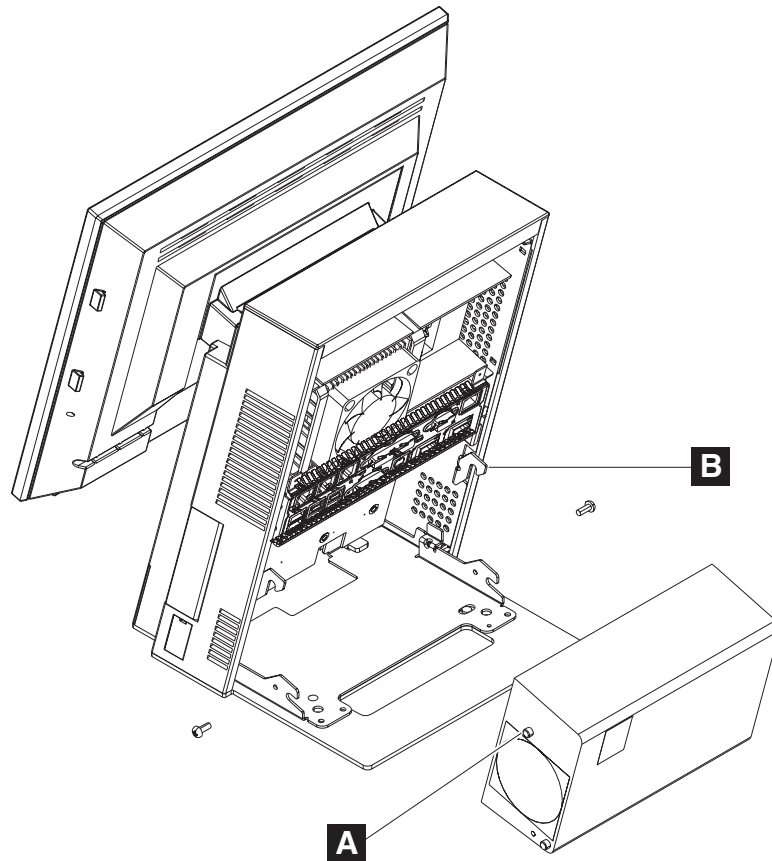

Figure 37. Power supply remove/replace
5. Remove the two screws at the base of the power supply, as shown in Figure 37.